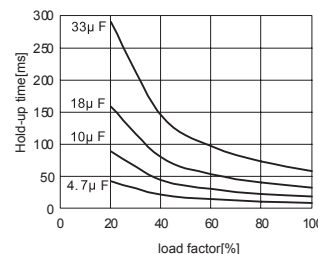
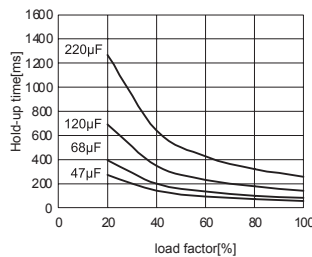

Fig.2.1 TUHS3 hold-up time(AC100V)
Fig.2.10 TUHS25 hold-up time(AC200V)
(3) Cbc: Smoothing capacitor
■ In order to smooth voltage, connect Cbc between +BC and -BC. Recommended capacitance of Cbc is shown in Table 2.2. Hold-up time and load factor is shown in figure 2.1-figure 2.10.